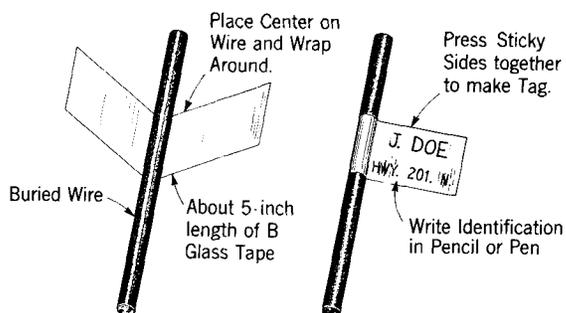

Fig. 1 — Identifying Tags
1.05 Buried wires can be identified at terminations by means of tags made from B Glass Tape. Cut about 5 inches of glass tape and wrap it about the wire, pressing the sticky side against itself to make the tag. It can be readily marked with pencil or pen to show the subscriber or to identify the route of the buried wire. This is shown in Fig. 1.